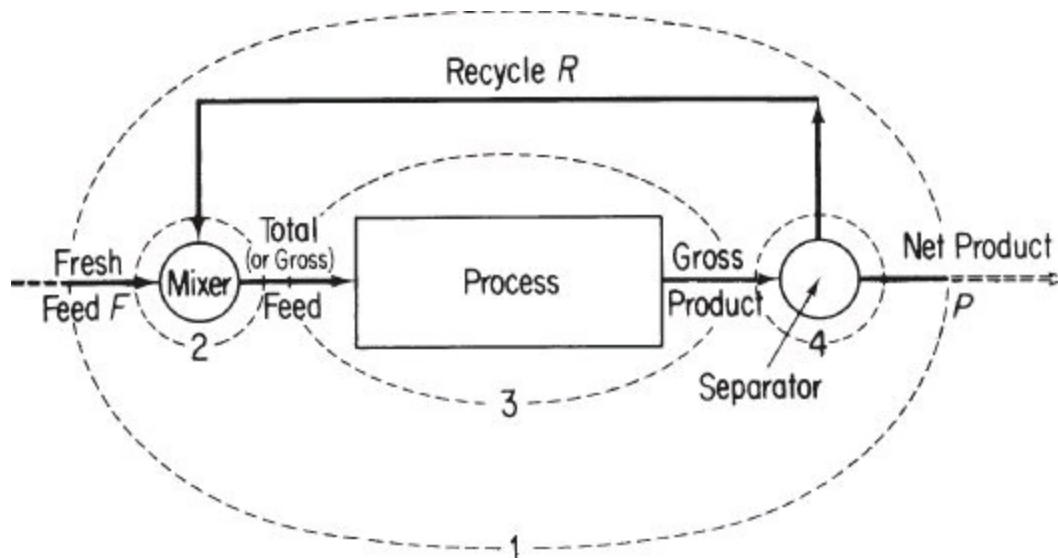

Figure 6.6. Process with recycle. The numbers and dashed lines designate possible system boundaries for the material balances—see the text.
You can formulate material balances for recycle systems without reaction using the same strategy explained in Chapter 3 and applied in subsequent chapters. Examine Figure 6.6.
The main new aspect of solving problems involving recycle is picking the proper sequence of systems to analyze. You can write material balances for several different systems, four of which are shown by dashed lines in Figure 6.6, namely:
1. About the entire process including the recycle stream, as indicated by the dashed boundary identified by 1 in Figure 6.6. Such balances contain no information about the recycle stream. Note that the **fresh feed** enters the overall system, and the **overall** or **net product** is removed and can be used to determine the extent of reaction when the process under consideration is a reactor and the reactions are known. You can also employ element balances as explained in Chapter 5.
2. About the junction point at which the fresh feed is combined with the recycle stream (identified by 2 in Figure 6.6).
3. About the process itself (identified by 3 in Figure 6.6). Note that the **process feed** enters the process and the **gross product** is removed.
4. About the separator at which the gross product is separated into recycle and overall (net) product (identified by 4 in Figure 6.6).
Note that in Figure 6.6, the recycle stream is associated both with the mixer, which is located at the beginning of the process, and with the separator, which is located at the end of the process. As a result, recycle problems lead to coupled equations that have to be solved simultaneously. You will find that overall material balances (1 in Figure 6.6), particularly with a tie component, are usually a good place to start when solving recycle problems. If you solve an overall material balance(s), and are successful—that is, you are able to calculate all or some of the unknowns by using the overall balance—the rest of the problem can usually be solved by sequentially applying single-unit material balances traversing sequentially through the process. Otherwise, you must write a number of material